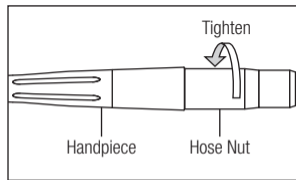

Fig. 3
- 1) Insert the handpiece correctly into the hose connector and tighten the hose nut.(Fig. 3)